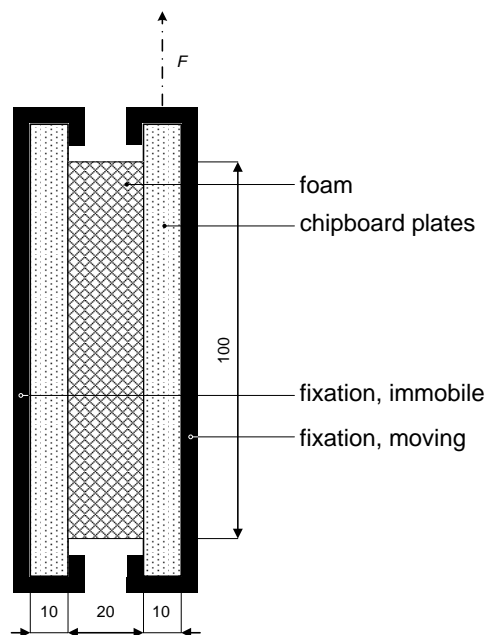

Figure 1: Specimen ready for test
- a) Fix one board to the tensile testing machine to avoid movement. Attach the other board to the towing clamps of the testing machine. This board will be moved for the measurement (see fig.1).